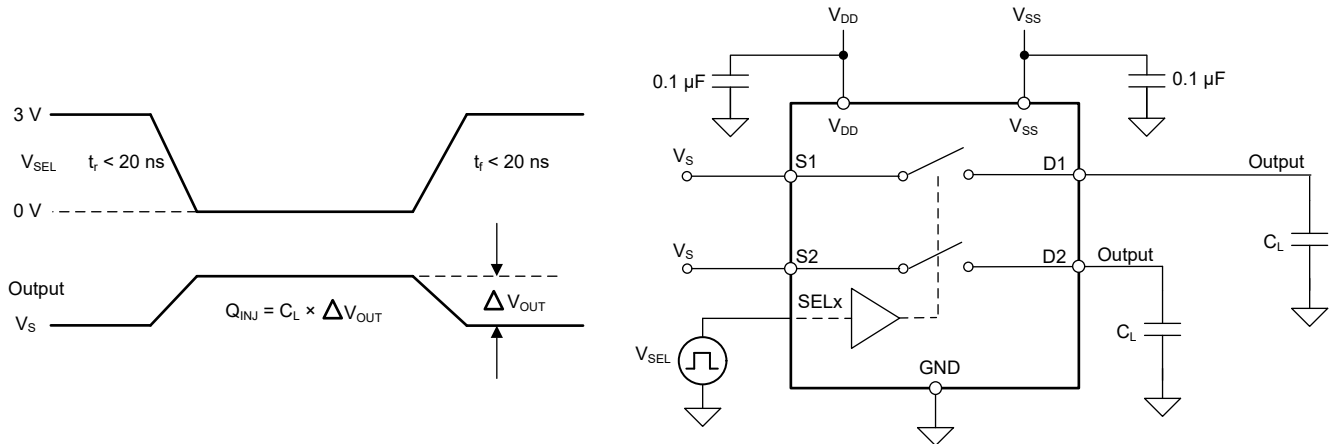

图 6-7. Charge-Injection Measurement Setup
The TMUX622x has a transmission-gate topology. Any mismatch in capacitance between the NMOS and PMOS transistors results in a charge injected into the drain or source during the falling or rising edge of the gate signal. The amount of charge injected into the source or drain of the device is known as charge injection, and is denoted by the symbol Q_C . 图 6-7 shows the setup used to measure charge injection from source (S_x) to drain (D).